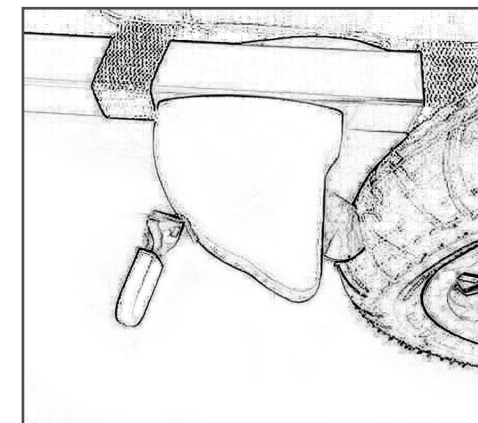

Figure 13
2. Locate the 2 holes in the front of the side frame, just in front of the wheel. (Fig. 13)